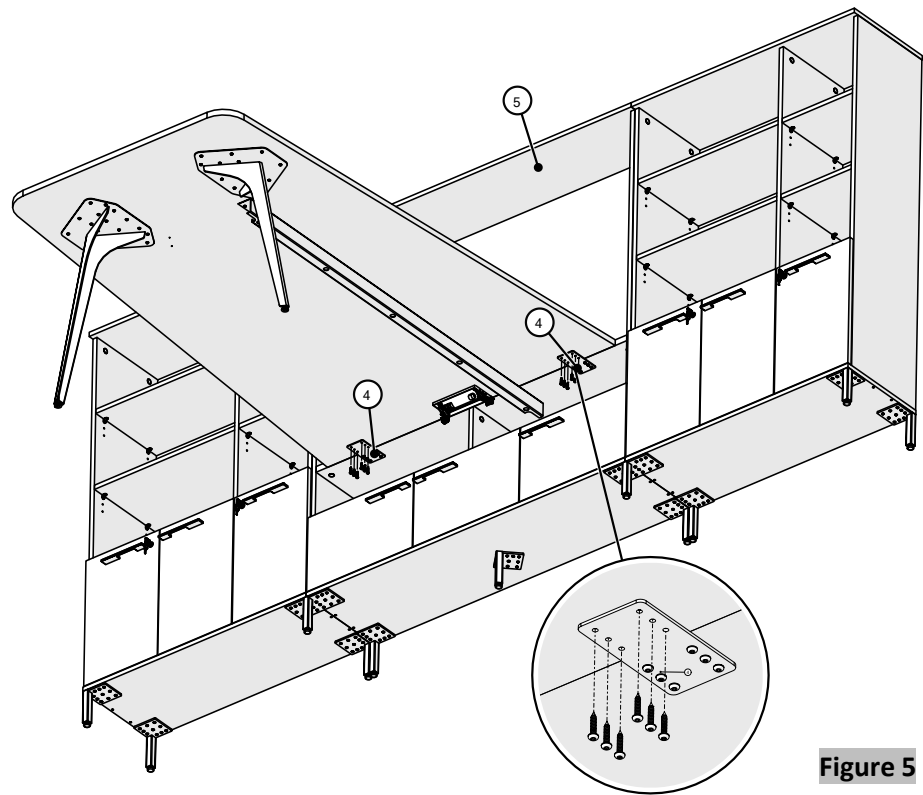

Figure 5
- 8. Securely fasten AV Unit Mounted Video Table to flush plates using #10 x 1" Pan Head Screws, (Figure 5).